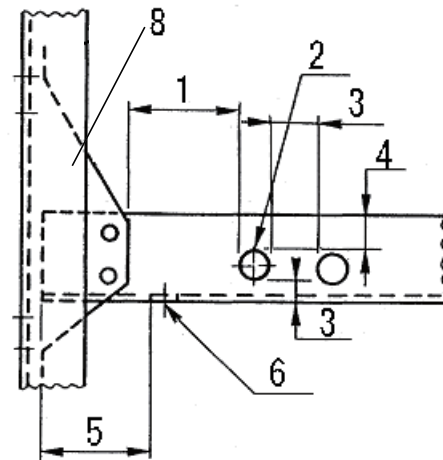

Fig. 2
- Holes in the web of the channel type crossmember should be 50 mm {1.97 in.} min. from the end of the crossmember. (Refer to Fig. 2)